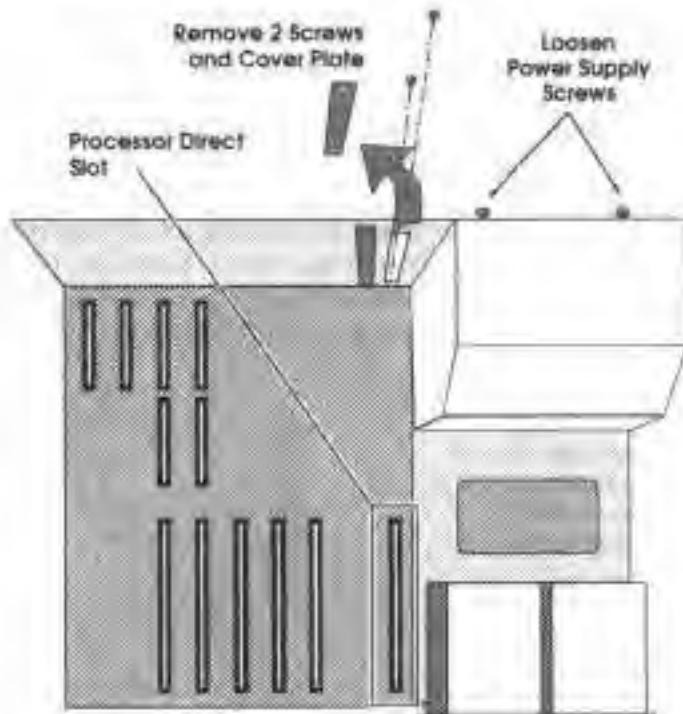

Figure 4.2 – Processor Slot location.
The A2000 G-Force '040 board uses the A2000's Processor Direct slot (see Figure 4.2). This is the multi-pin bus connector closest to the Drive Stage. There is only one way the board can fit into this slot.
- 3) Remove 2 screws and cover plate from rear panel (see Figure 4.2).
4) Locate the two upper screws that secure the power supply to the Amiga's rear panel. Loosen these and any other screws that prevent the rear panel from flexing (see Figure 4.2).